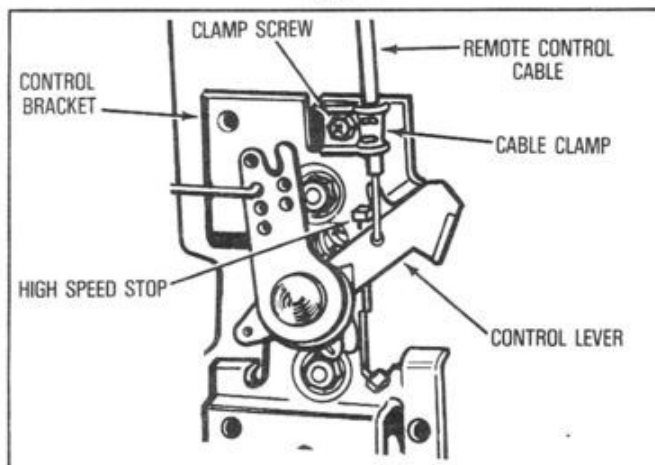

Figure 8
② REMOTE CONTROL ADJUSTMENTS (see Figure 8)